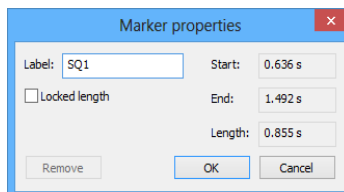

Figure 392 – Marker properties dialog
4. Release the left mouse button. The **Marker properties** dialog is automatically displayed (see Figure 392).